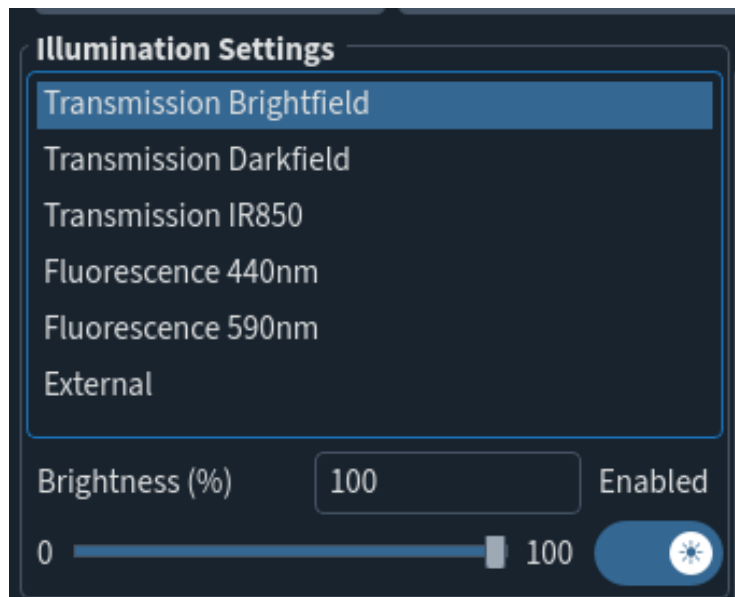

Fig 10: GUI LED board settings
**Brightness:** Located under “LED Settings”, this will control the overall brightness of the LEDs used to illuminate the sample (Fig 10).